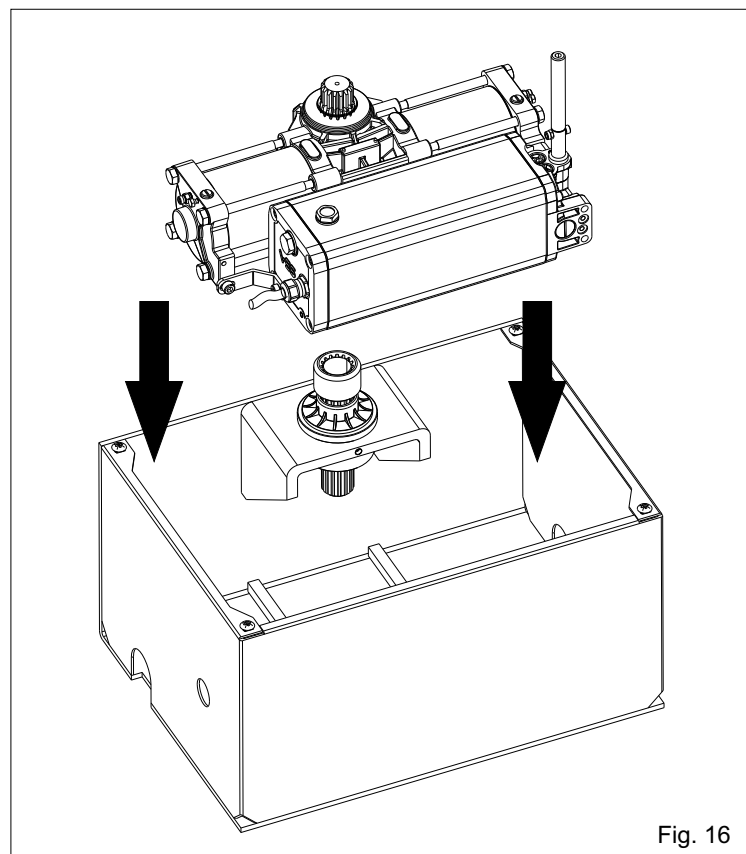
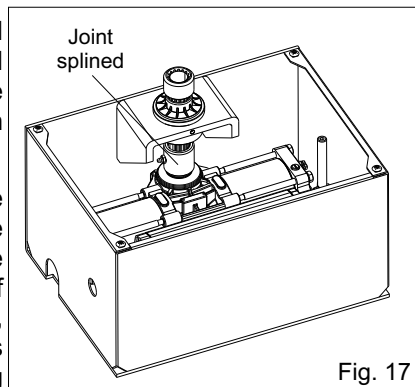

Fig. 16
Fig. 17
**4.3.** Put the operator inside the carrying box by hand (Fig. 16) and couple the pinion of the operator with the pinion of the box using the jointed splined bush (Fig. 17).